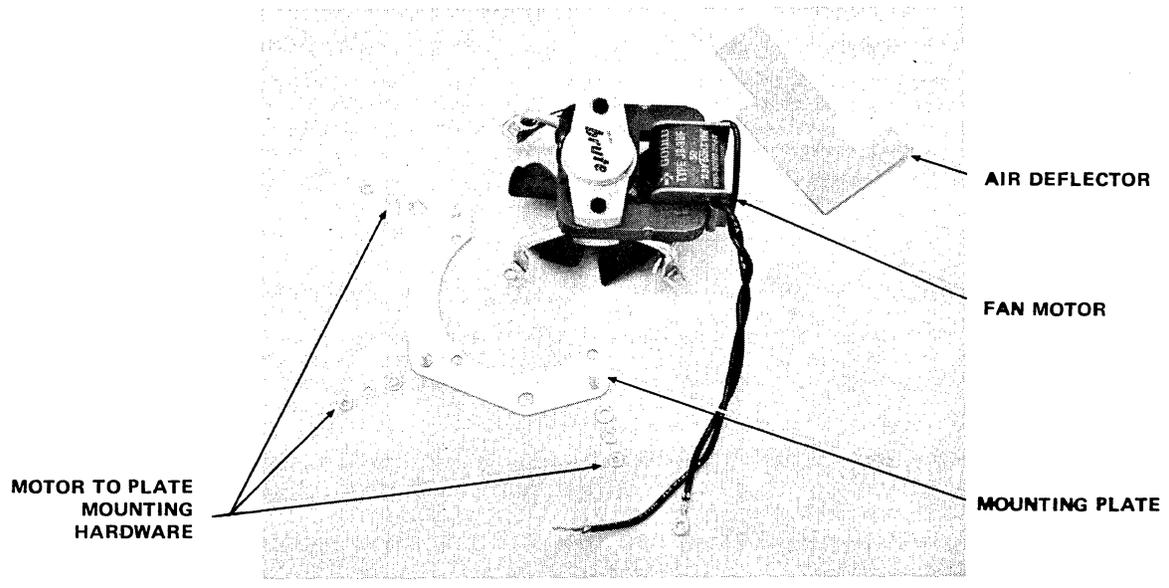

Figure 5-61 COOLING FAN INSTALLATION PARTS
1. Assemble and identify the various parts needed for installation of the cooling fan, as shown in Figure 5-61.